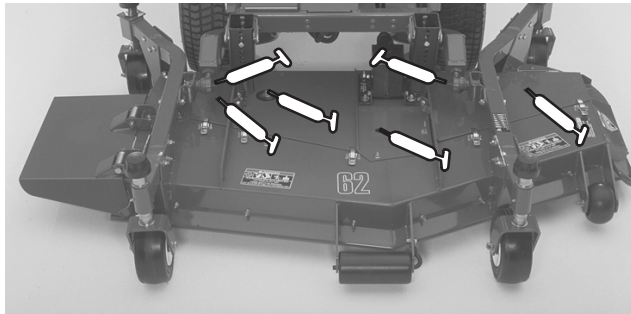

Figure 21
- blade spindle bearings (Fig. 21)
- right and left push arm ball joints (Fig. 21)